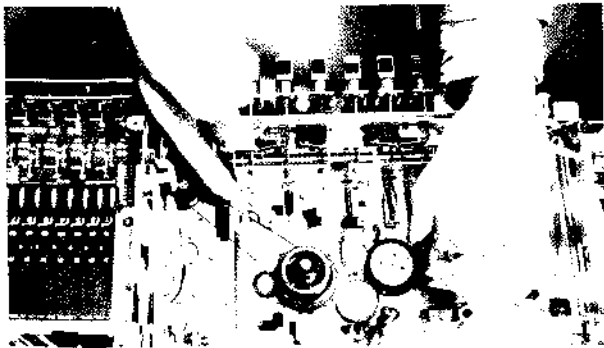

Fig. 5-16
3. Set the torque meter to the supply reel disk. Push the memory plate in direction of arrow (A) as shown in Fig. 5-16. Gradually relax your grip on the torque meter and read the meter while it is slowly slipping in your hand.